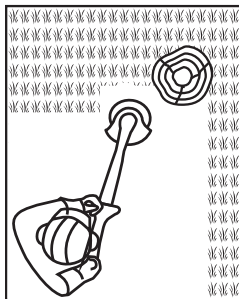

Fig. 22
4. Pull the plant protector out to avoid bringing the cutting device into contact with hard objects such as walls and kerbstones (Figs. 22, 23).